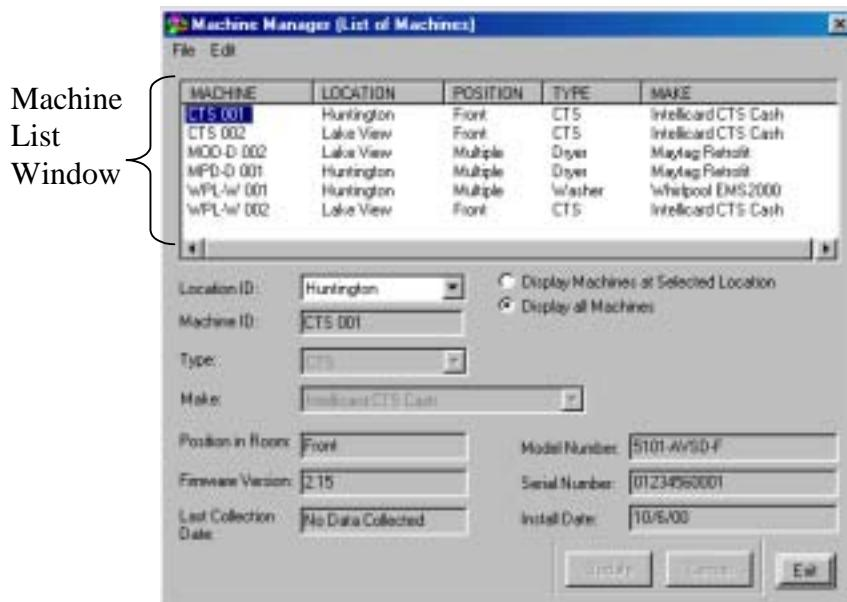

Figure 3.8 Completed Machine Setup
8. When completed, check to verify that the Machine List Window in the Machine Manager (List of Machines) dialog box includes the 6 machines entered in this section (Figure 3.8).